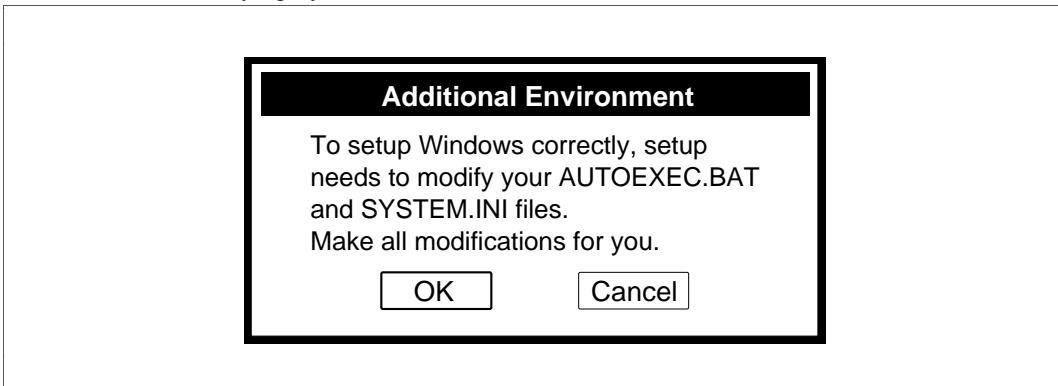

Figure 2-6 Addition Confirmation Dialog Box (INSTALL)
- (9) When the E7000PC system disk has been copied, a dialog box is displayed to confirm whether the user wants to add to the AUTOEXEC.BAT file the path name of the directory in which the GUI-2600 has been installed and whether the user wants to modify the SYSTEM.INI file, as shown in figure 2-6.